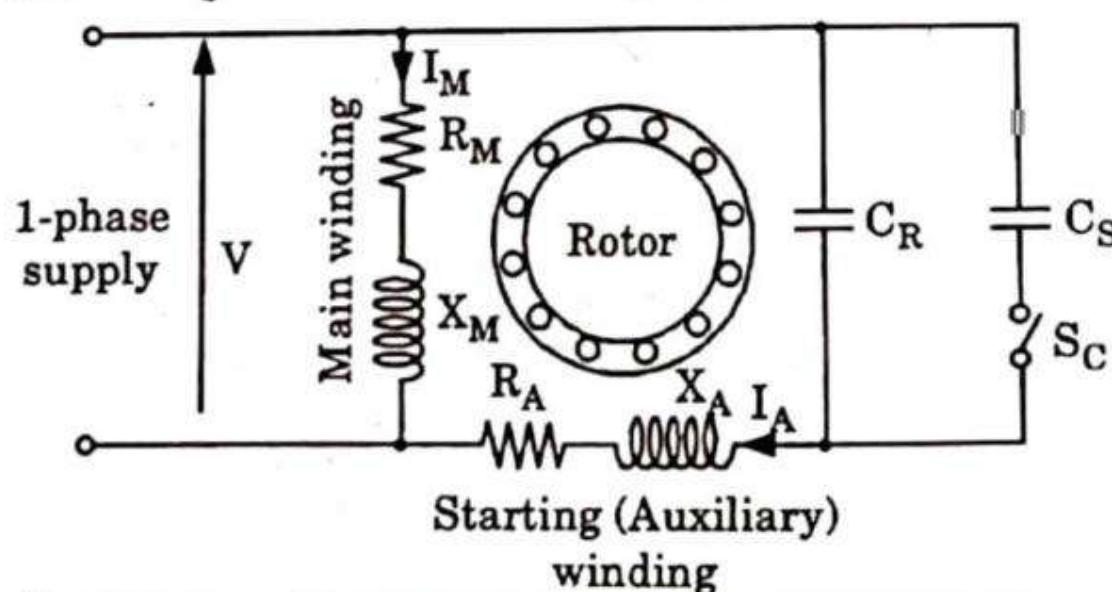

Fig. 4.30.1. Two-value capacitor motor or capacitor-start capacitor-run motor.
1. Fig. 4.30.1 shows the schematic diagram of a two-value capacitor motor.